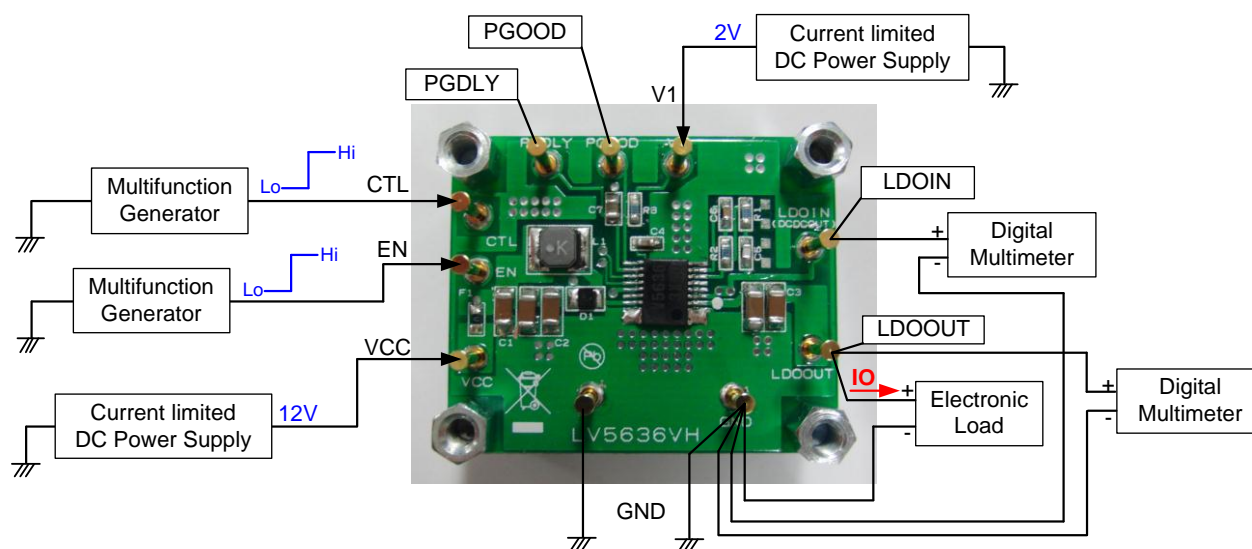

Figure 4: Test setup
- (1) Connect the test setup as shown in Figure 4
- (2) Apply 12Vdc to VCC.
- (3) Apply 2Vdc to V1.
- (4) Apply Low level (0V) or High level (2V) signal to CTL.
- (5) Apply Low level (0V) signal to EN.
- (6) Check that LDOIN=0[V] and LDOOUT=0[V].
- (7) Apply IO(load)=0[A] to LDOOUT.
- (8) Apply High level (2V) signal to EN.
- (9) If CTL state = Low, Check that LDOIN=12.3[V] and LDOOUT=11.7[V]